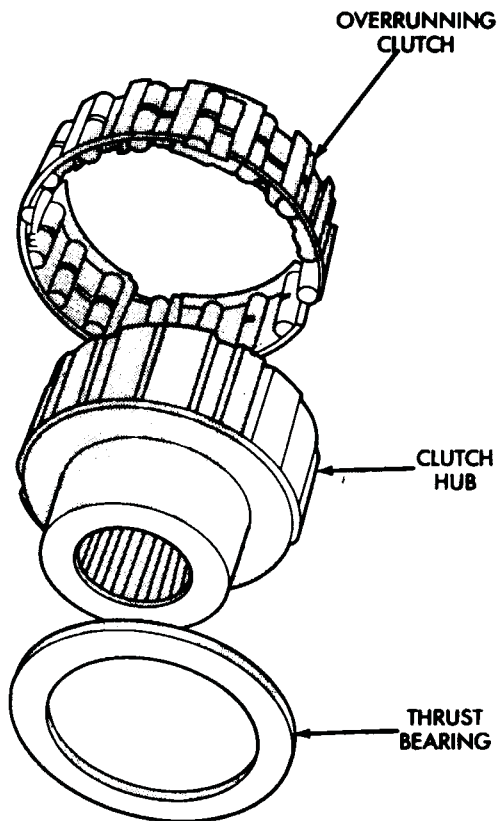

Fig. 28.Overrunning Clutch Components
- (17) Remove thrust bearing from overrunning clutch hub (Fig. 28).
(18) Remove overrunning clutch from hub (Fig. 28).